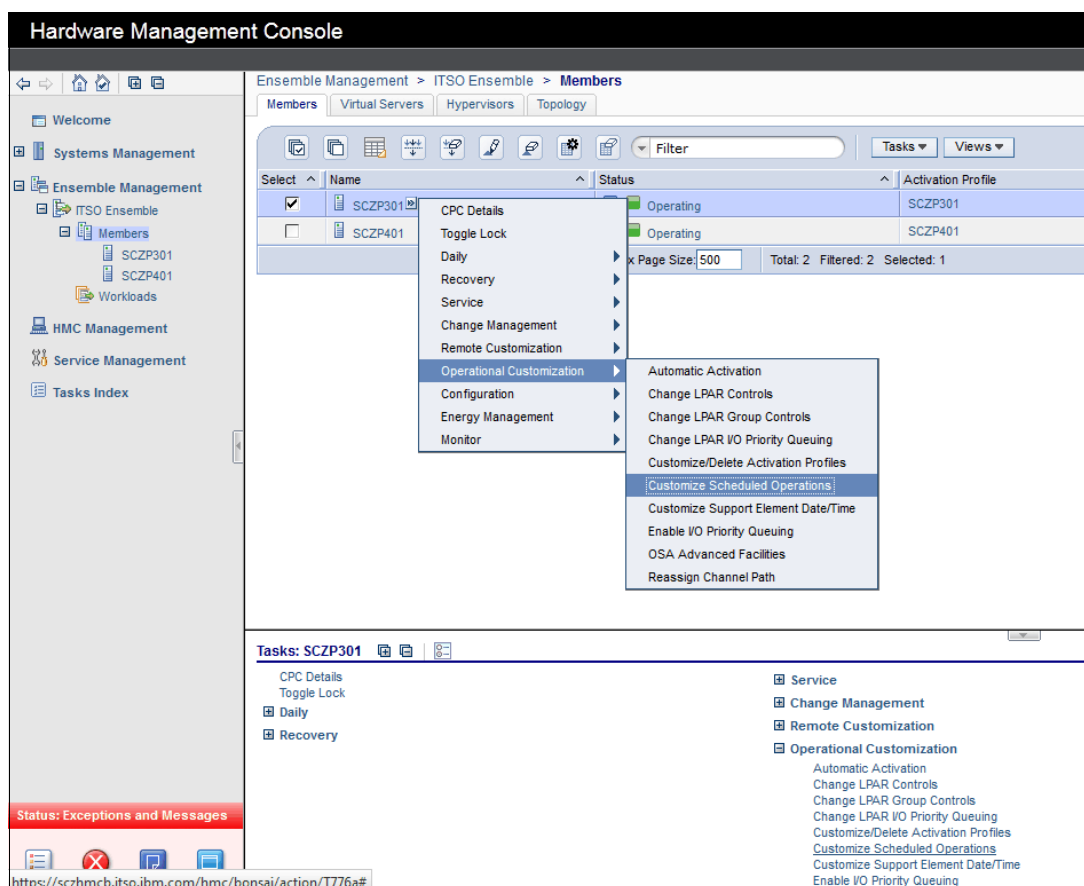

Figure 6-118 Customize Scheduled Operations task
1. In the HMC task list, select **Operational Customization** → **Customize Scheduled Operations** (Figure 6-118).